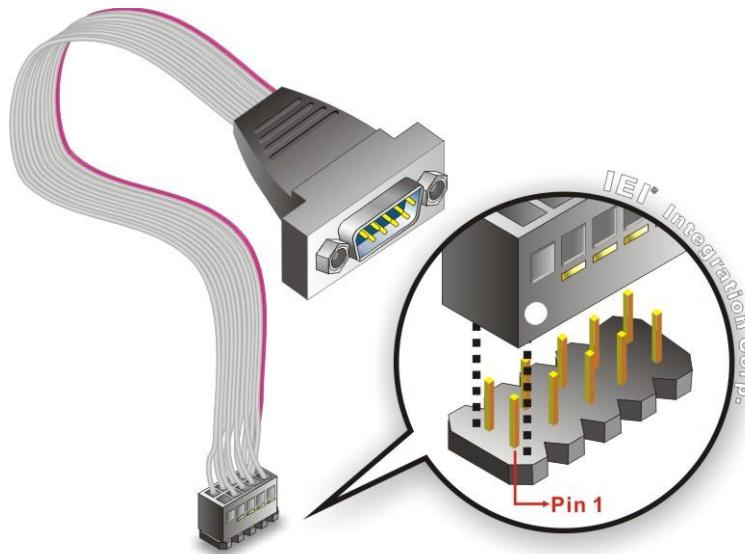

Figure 4-12: Single RS-232 Cable Installation
Step 2: Insert the cable connector. Align the cable connector with the onboard connector. Make sure pin 1 on the board and connector line up. Pin 1 on the cable connector is indicated with a white dot. See **Figure 4-12**.